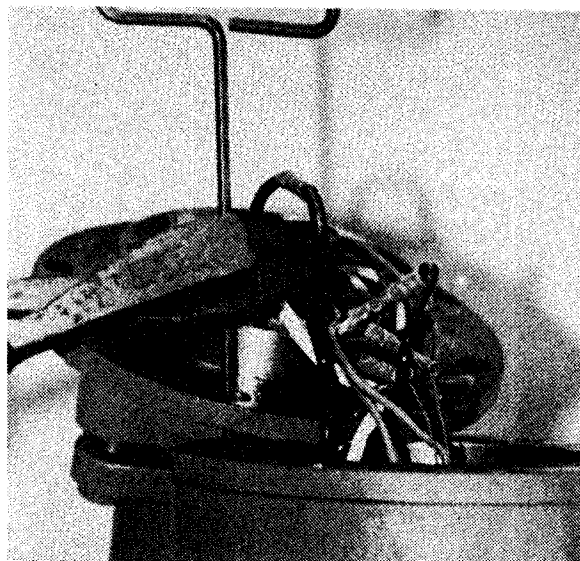

FIG. 34
4. Cut off all motor leads $\frac{3}{4}$ " down from the connector on the stator side, this way the cap and cord assembly and the connectors can be checked for continuity. See Figures 34 and 35.